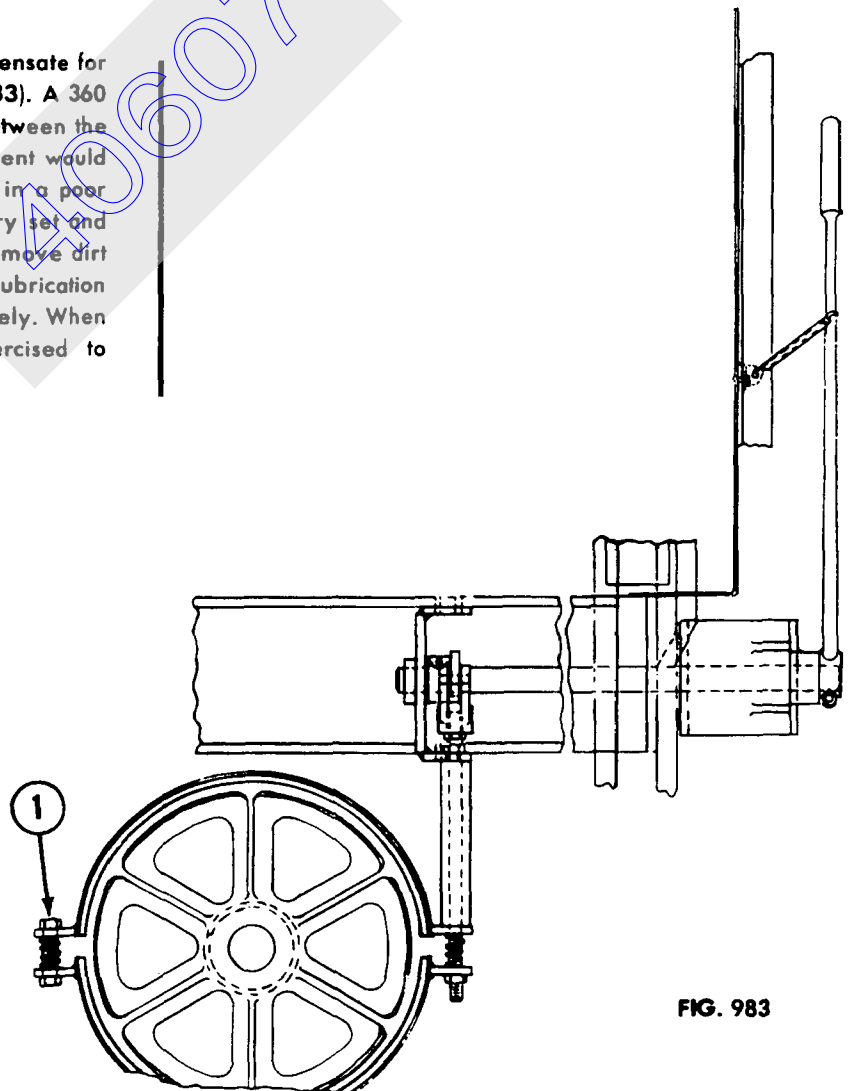

FIG. 983
Only one adjustment is necessary to compensate for brake lining wear, tighten nut (1), (Figure 983). A 360 degree clearance of .030" should be held between the brake drum and lining. Too close of an adjustment would cause the brake to heat which would result in a poor operating auxiliary brake. All linkage is factory set and should never need adjusting. Periodically remove dirt shield and check operation of brake band. Lubrication always makes operating linkage work more freely. When lubrication is necessary, care should be exercised to avoid lubricant from getting on brake bands.